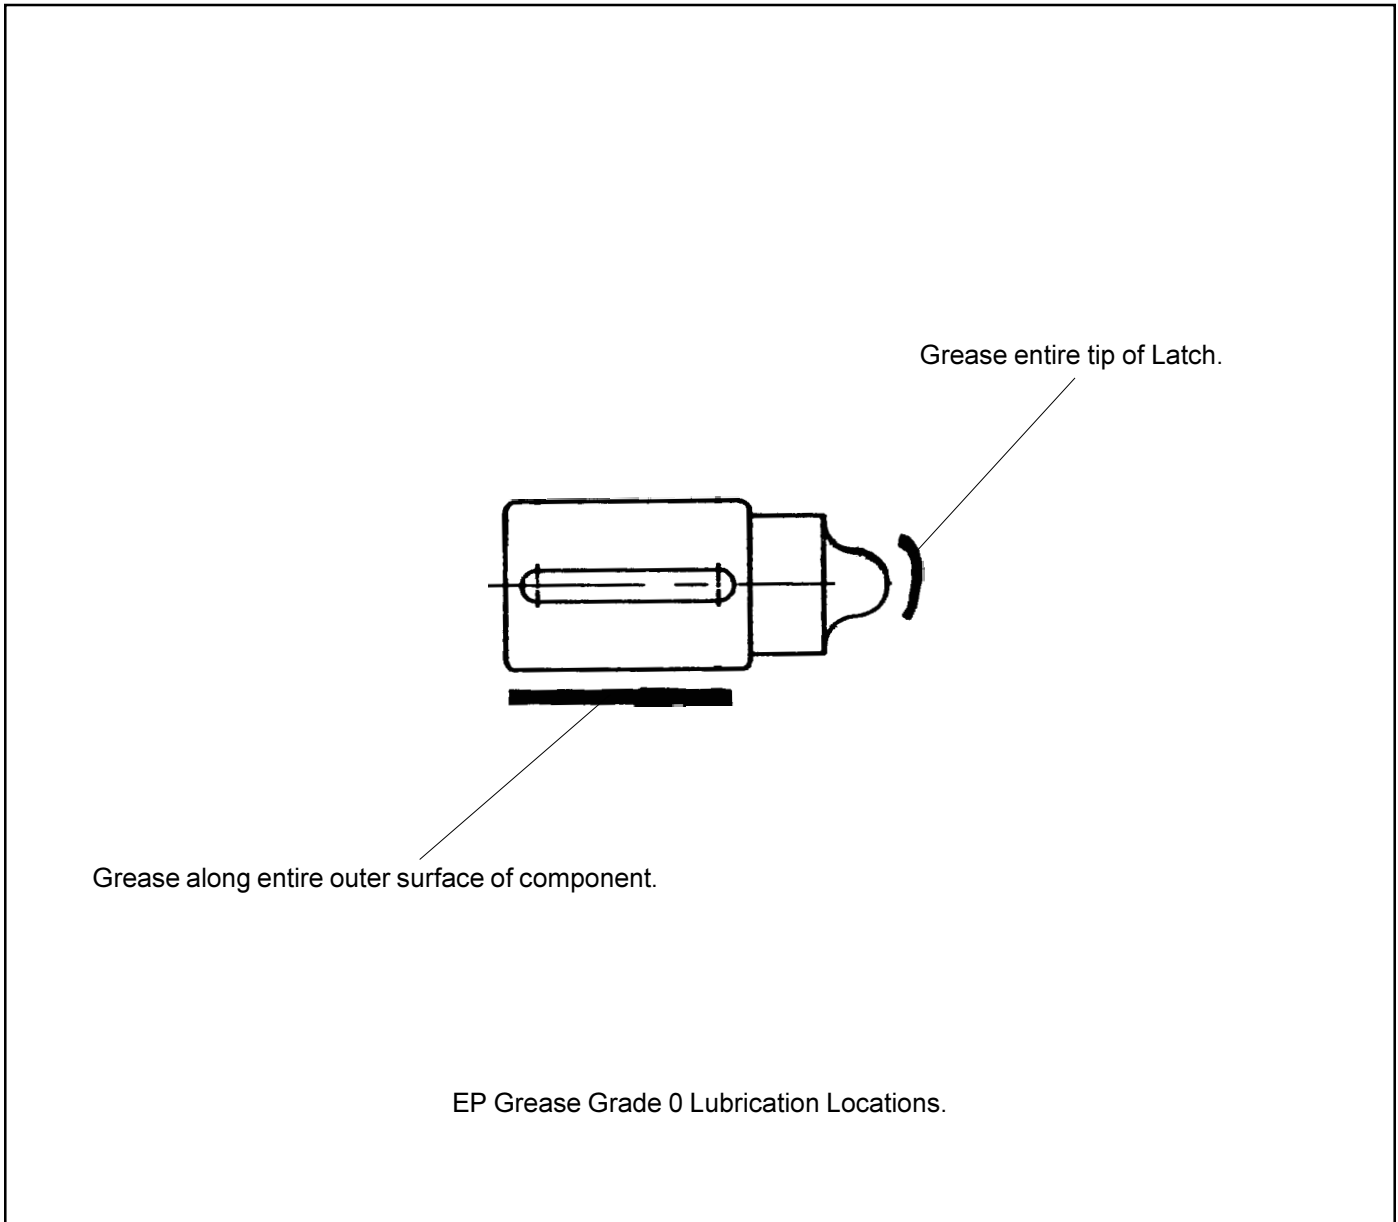

Figure 3 - 30 CDW Type Brake Valve Latch
Reassemble latch assembly items (Items 1-4, Figure 1) in the 30 CDW Type Brake Valve using a new latch (pc. no. 559888). Verify latch mechanism has the square key securely in position. Using a small brush, lubricate the latch along the contact radius and the outside diameter of the component. (See Figure 3). Once latch (Item 4, Figure 1) is properly lubricated, place component in the bore bushing of the brake valve (Item 5, Figure 1). This is accomplished by aligning the square latch key with the square milled slot in the valve bushing. Once aligned, place into position with needle nose pliers, making sure the quadrant latch and key move freely in the body bushing. Next, place latch spring (item 2, Figure 1) in the back end of the quadrant latch. Using lubricant EP Grease Grade 0, dab the threads of the cap nut to reduce thread friction during reassembly. Using 1¹/₈" combination wrench, turn cap nut in a clockwise manner until nut is securely in place flush with mating metal surface. Torque the cap nut to 20 ft-lbs.